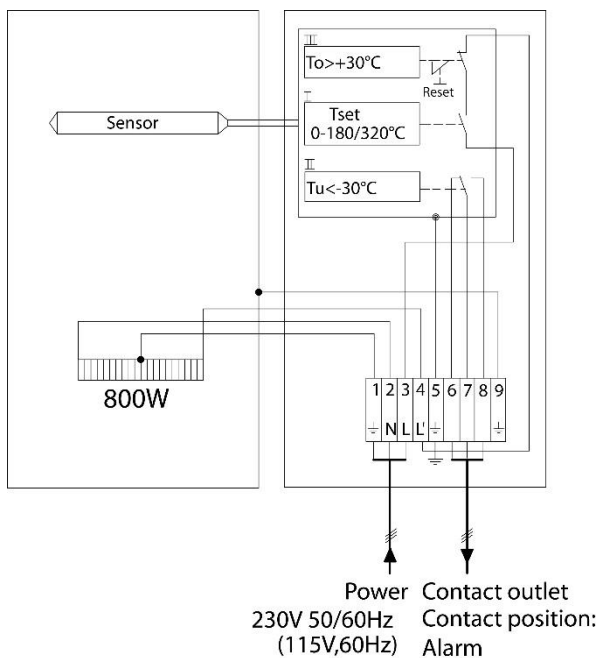

Figure 9 Electrical connection for SP2000-H, SP2300-H and SP2400-H with thermostat controller
- Remove the lid of the connection box. The electrical connection layout is also located in the lid (Fig. 9).